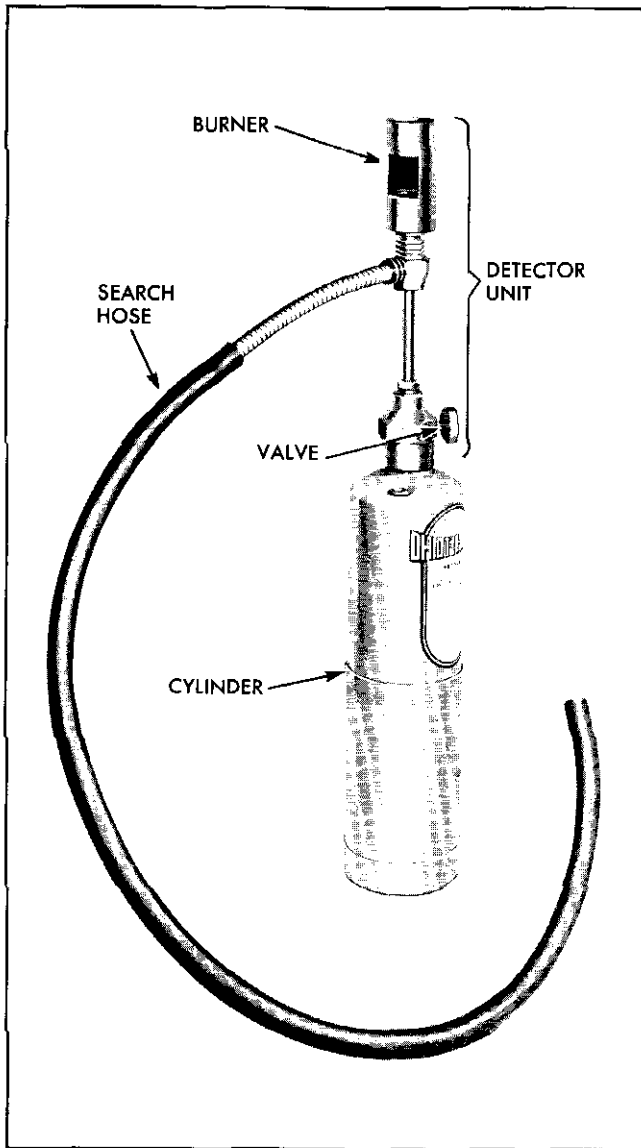

Fig. 5-4 J-6084 Leak Detector
4. Attach search hose assembly to detector unit (Fig. 5-4).